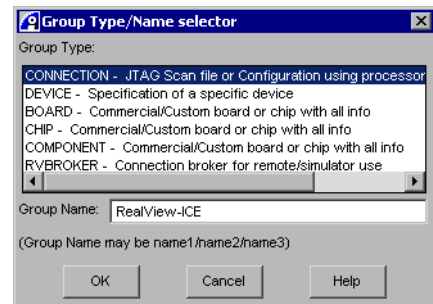

Figure 5-3 Specifying a new CONNECTION group
4. This displays the Group Type/Name selector dialog box, shown in Figure 5-3.